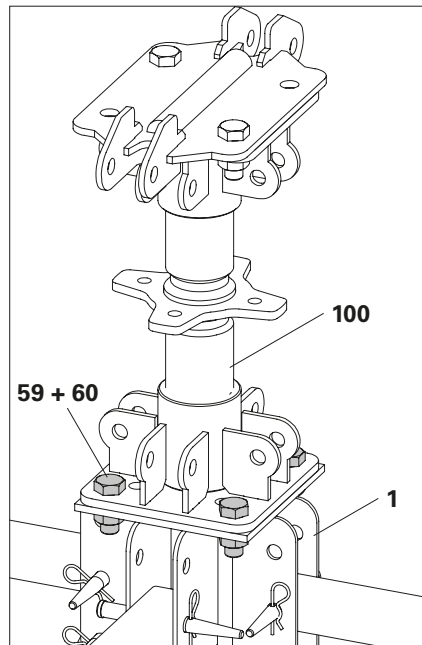

Fig. A1.37
4. Mount the Spindle ATS 360-550 (**100**) on the Prop Base ATS (**1**) using 4x bolt ISO 4017 M24 x 60-8.8 (**59**) and nut ISO 4032 M24-8 (**60**). (Fig. A1.37)
2. Erect tower. (Fig. A1.37)